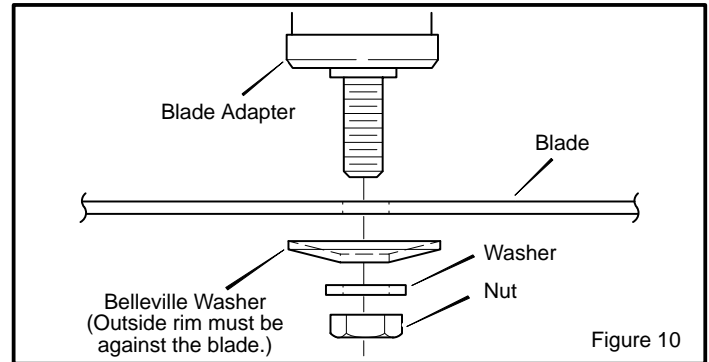

Figure 10
8. Fasten the **blade** with the original washers and **nut**. Make sure the outside rim of the **Belleville washer** is against the **blade** (Figure 10).